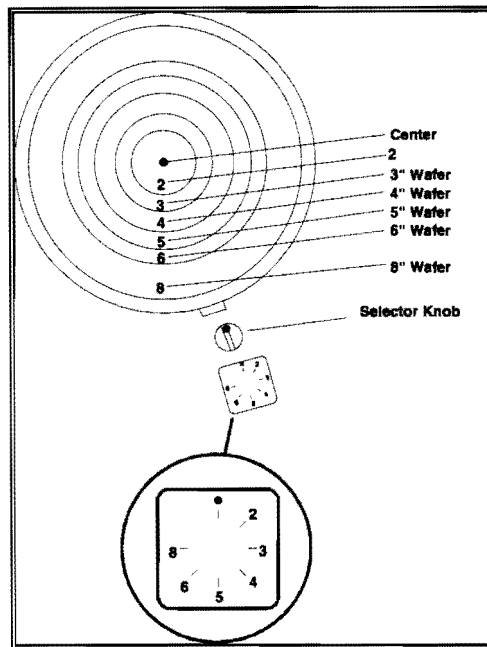

Figure 16
3. Using a flathead screwdriver, set the vacuum chuck selector on the chuck (see Figure 16) to the size of the wafer (3, 4, 5, 6, or 8 in.).